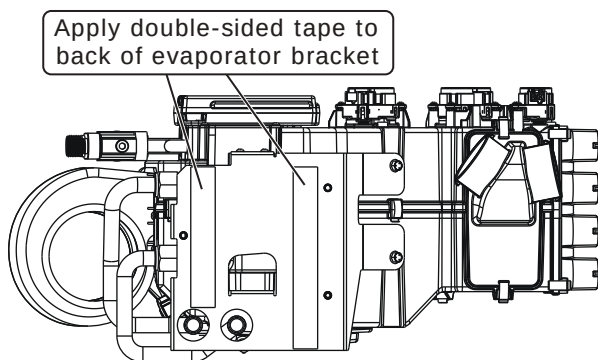

Figure 4
9. Apply double-sided tape onto the evaporator firewall bracket as shown in Figure 4, below.